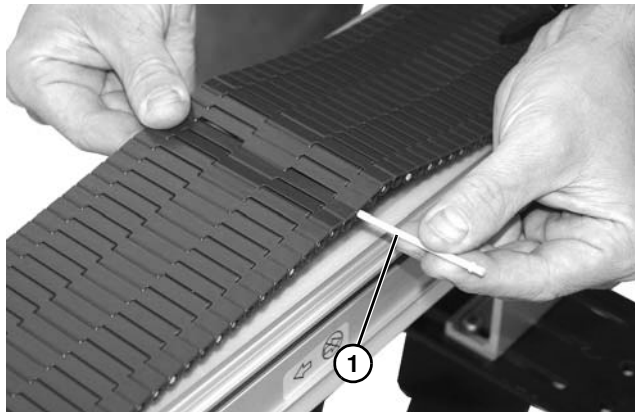

Figure 36
5. Splice the belt together by pushing the plastic rod (**Figure 36, item 1**) through the side hole on the rod retaining side of belt.